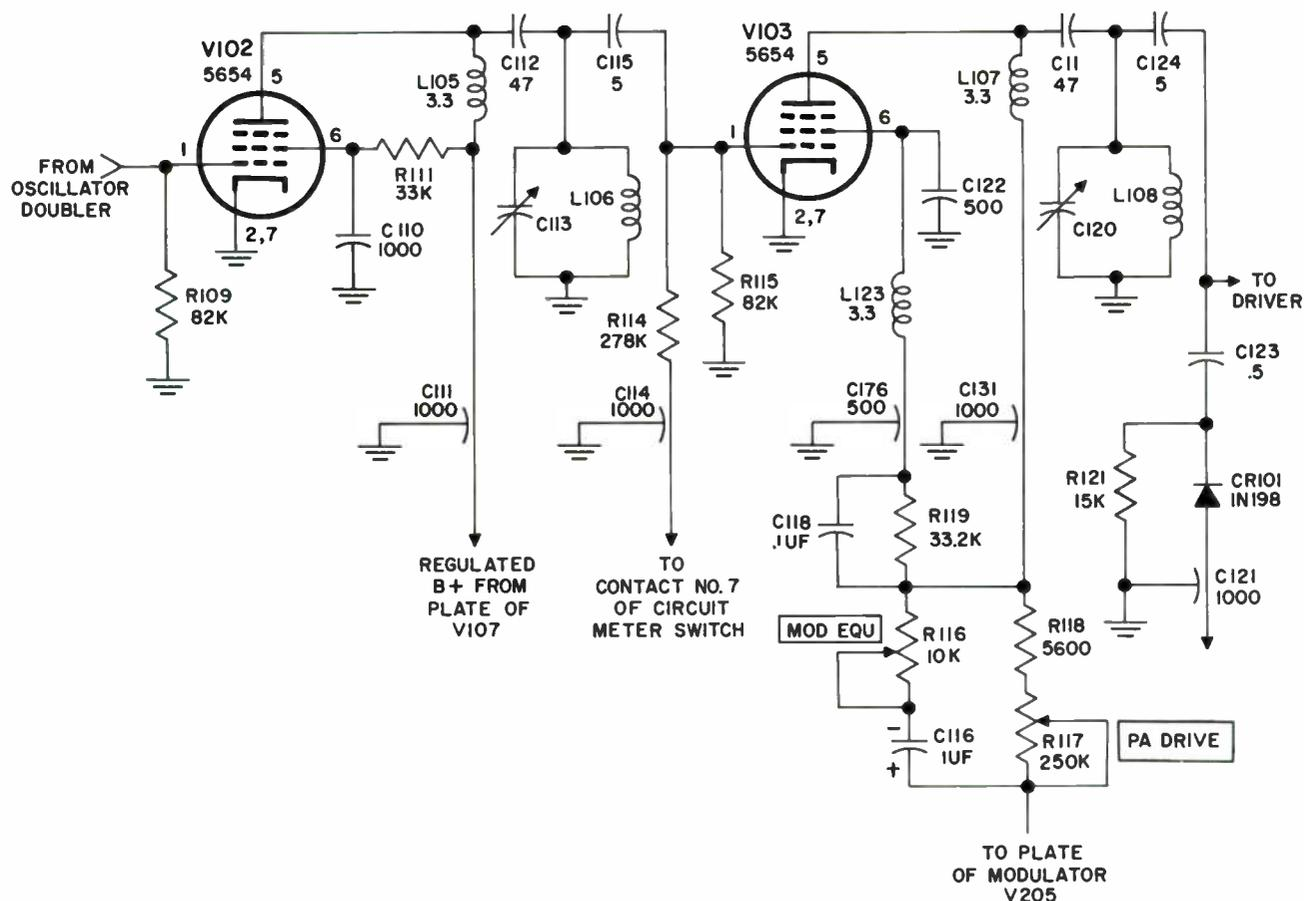

Figure 4-3. First and Second R-F Amplifiers
4.3.1.2 FIRST R-F AMPLIFIER. (Refer to figure 4-3.) The r-f signal from the oscillator is applied through C108 to the control grid of the first r-f amplifier, V102, a type 5654 pentode operating class C. The suppressor grid and the cathode, pins 2 and 7, are connected internally. Plate and screen voltage for this stage is taken from the low B+ power supply and is regulated by VR tube V107. Capacitor C110 is a screen bypass, and L105 is an r-f choke used for shunt feed of the plate. The plate tank circuit is composed of L106 and the tuning capacitor, C113. Capacitor C112 is a blocking capacitor to prevent grounding of the d-c plate voltage through L106. The tank circuit voltage is capacitively coupled through C115 to the next stage. The grid current of V103 is metered at contact 7 (2ND AMPL position) of METER SWITCH S101-A. Capacitors C111 and C114 are feedthrough bypass capacitors used to prevent r-f voltage from being fed out of the first amplifier compartment onto the meter and B+ leads.
4.3.1.3 SECOND R-F AMPLIFIER. (Refer to figure 4-3.) The signal from the first r-f amplifier is applied through C115 to the control grid of the second